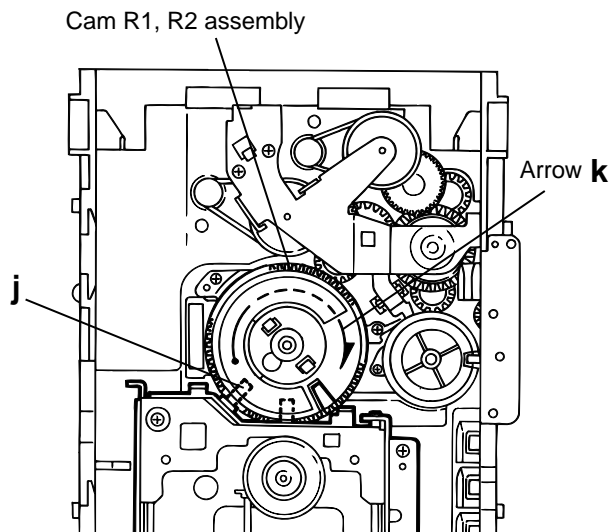

Fig.11
## ■ Removing the CD traverse mechanism (See Fig.11 and 12 )
1. For dismounting only the CD traverse mechanism without removing the CD loading mechanism assembly, align the shaft "j" of the CD loading mechanism assembly to the position shown Fig.11 while turning the cam R1 and R2 assembly in the arrow direction "k".